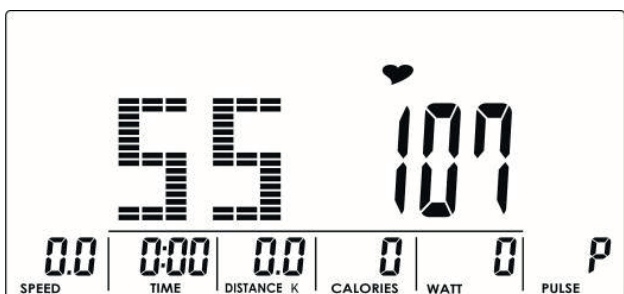
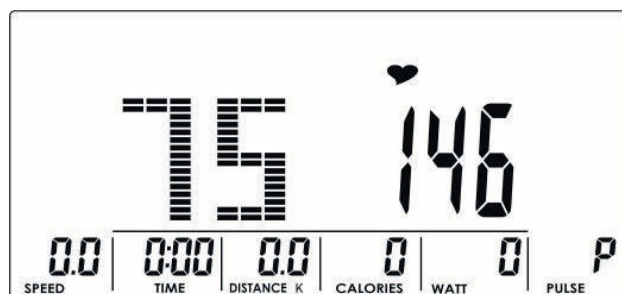
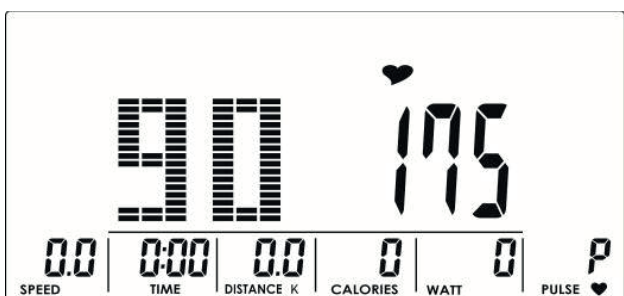
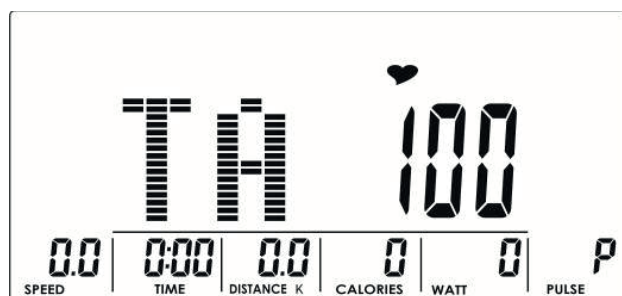

Fig. 11
Fig. 12
Fig. 13
Fig. 14
2. Select 55 % (fig. 11), 75 % (fig. 12) 90% (fig. 13) or TAG (target heart rate, default value: 100) (fig. 14) with the encoder. When you select TAG, enter a value from 30 to 230 with the encoder.